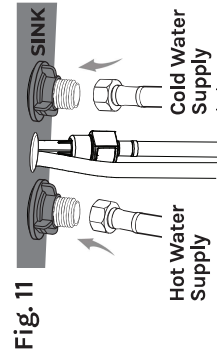

Fig. 11
8. Install new water supply lines by threading the hoses to the faucet shanks, then tighten all connections (see Fig. 11).